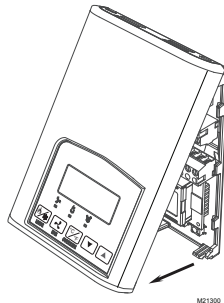

Fig. 3. Removing cover.
2. Open up by pulling on the bottom side of thermostat. (Fig. 3)